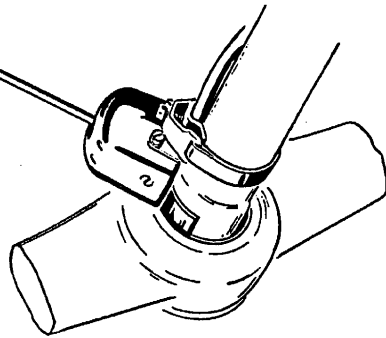

Fig. 40 Automatic return switch on steering column with steering wheel mounted (view from below)
7. Fit automatic return switch in such a way that the driving lug with the switch disconnected is about 0.5 mm apart from the top of the cam (with steering wheel turned); moreover, the driving lug (or the housing) must be symmetrical in relation to the annular cam. Tighten fixing strap (Fig. 40).